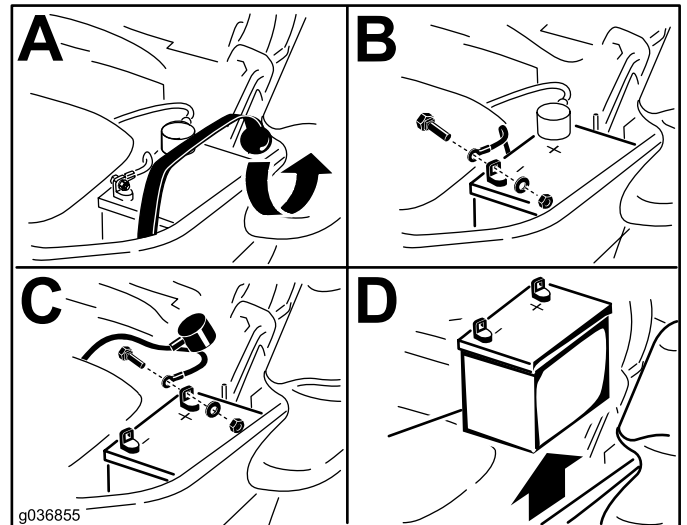

Figure 54
3. Remove the battery as shown in Figure 54.
1. Position the battery in the tray with the terminal posts opposite from the hydraulic tank (Figure 54).
- Secure the cables with 2 bolts, 2 washers, and 2 locknuts (Figure 54).
- Secure the battery with the rubber strap (Figure 54).